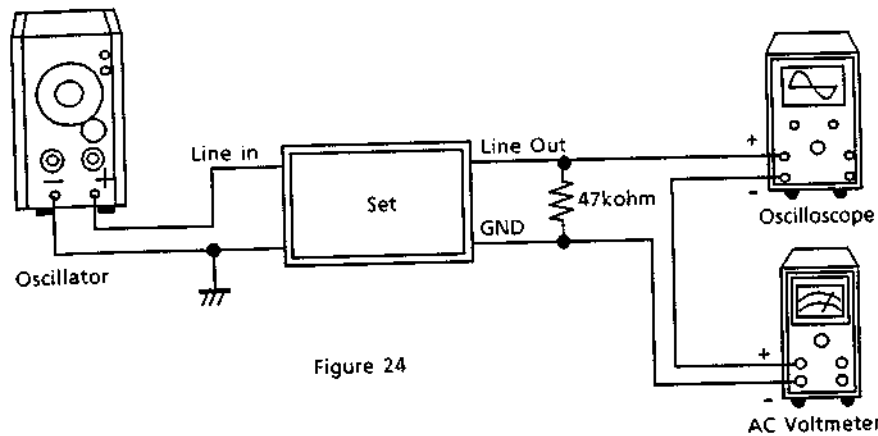

Figure 24
- (1) Make the connections as shown in figure 24 and turn the power ON.
- (2) Insert the metal tape (TDK AC-712) into deck B and set to REC PLAY mode. Set the REC LEVEL volume to the maximum.
- (3) Input the signal that has been reduced by 25dB from the 400Hz/150mV  $\pm 2$ dB signal (DOLBY LEVEL reference input) to the line input, and set the output value of the line output L (R) to the reference value.
- (4) Adjust VR5071 (VR5072) so that the output value of the line output L (R) becomes equal to the reference value when the signal that has been reduced by 25dB from the 12.5kHz/150mV  $\pm 2$ dB signal is input to the line input.
- (5) Insert the CrO2 tape (TDK AC-512) as in (2), and set to REC PLAY model, input the signal that has been reduced by 25dB from the 400Hz/150mV  $\pm 2$ dB signal (DOLBY LEVEL reference input), and set the output value of the line output L (R) to the reference value as in (3) and (4). Adjust VR5073 (VR5074) so that the output level when the 12.5kHz/-25dB signal is input becomes equal to the reference value.
- (6) Insert the normal tape (TDK AC-223) as in (2), and set to REC PLAY mode. Input the signal that has been reduced by 25dB from the 400Hz/150mV  $\pm 2$ dB signal (DOLBY LEVEL reference input), and set the output value of the line output L (R) to the reference value as in (3) and (4). Adjust VR5075 (VR5076) so that the output level when the 12.5kHz/-25dB signal is input becomes equal to the reference value.